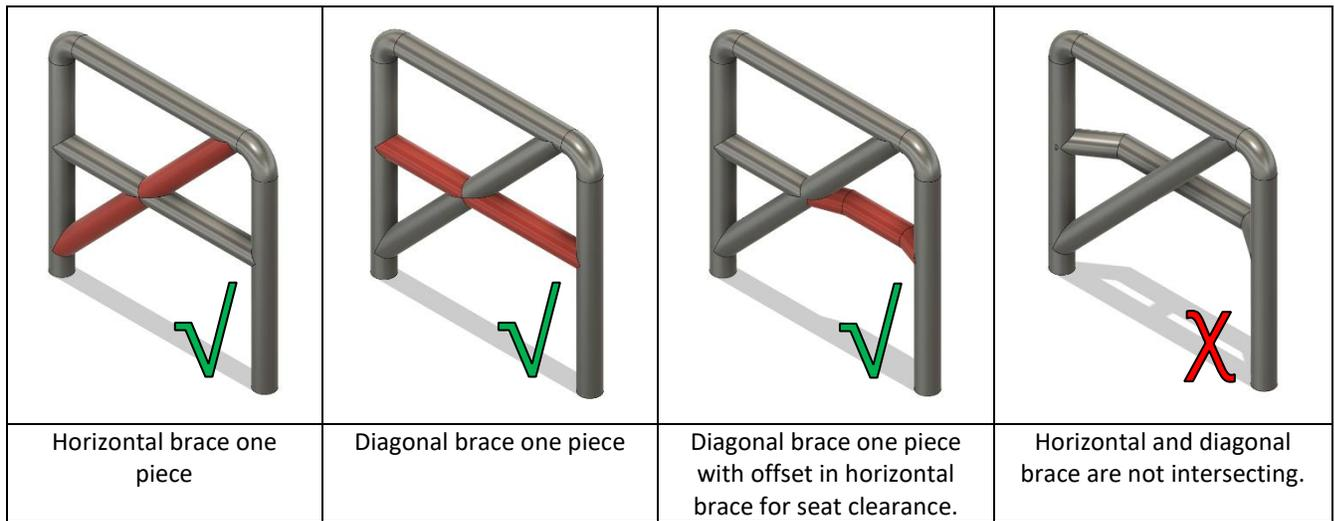

Figure 6
- E. The diagonal brace or the horizontal brace must be one continuous piece of tube, with the other intersecting it. Refer to Figure 6.